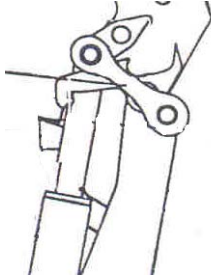

Figure 8.10: Mechanical leverage linking device ("link")
- Do not engage in any distracting activities while operating the crane (Figure 8.10).
- Some cranes are designed with a mechanical leverage linkage device (link) attached to the column and inner boom; this device improves the crane's ability to lift tall loads near a crane's base and at high boom angles (Figure 8.10).